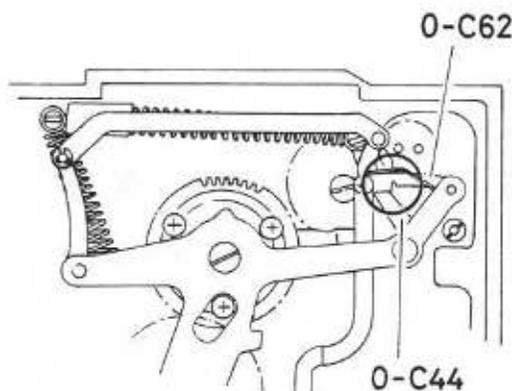

Fig. 1
* Make sure that the Wind mech block is released. In other words, the Charge lever assy. (0-C44) is not latched by the Release lever assy. (0-C62) as shown in Fig. 1.